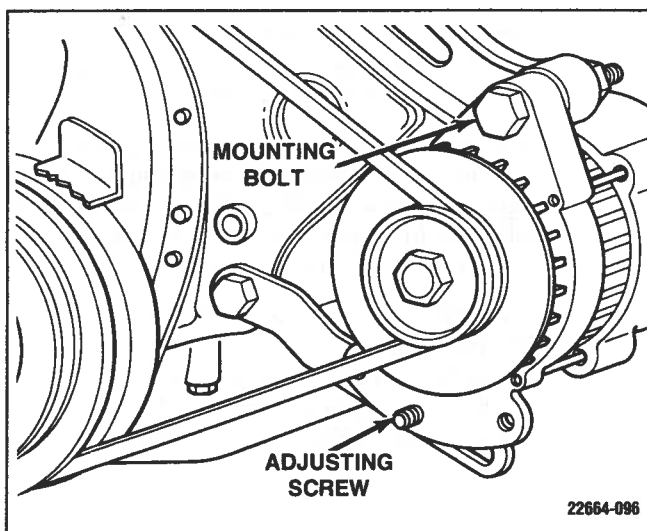

Figure 6-122. Alternator Mounting
4. Remove screws and washers to remove alternator. (Figure 6-122)